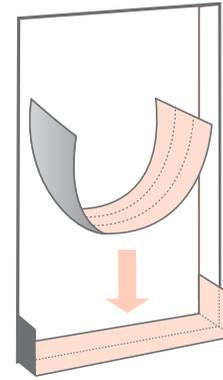

fig. 4
- Remove the release paper, cover the horizontal sill by aligning flashing tape inside edge of sill and adhere into rough opening along the sill and up the jambs a minimum 6". (fig. 4 & 4a)